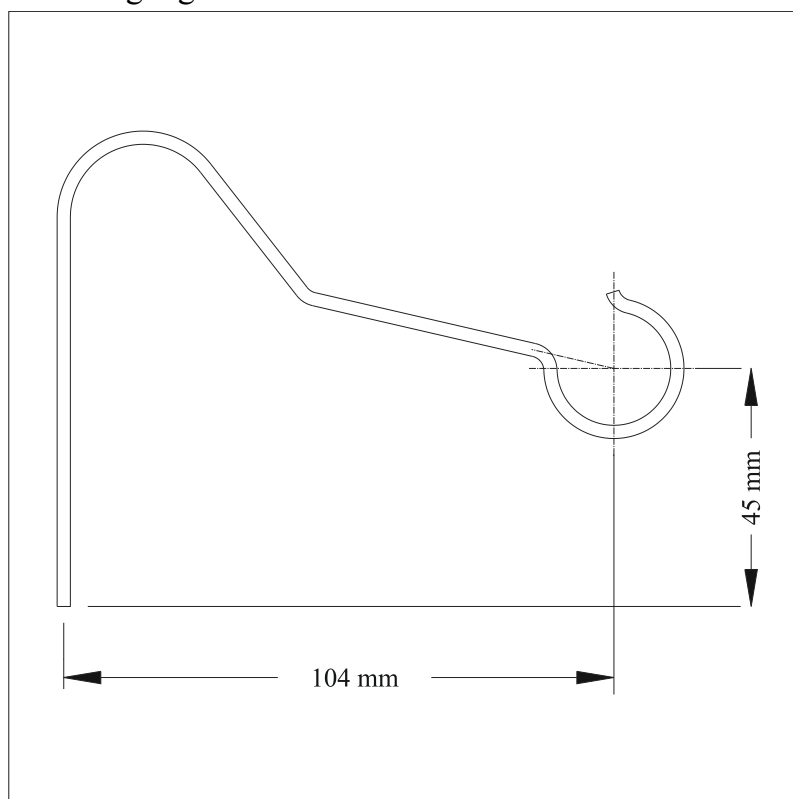

Figure 14 Float Wire Adjustment
- 2 Remove the float wire and bend it in form like shown in the following Figure 14: